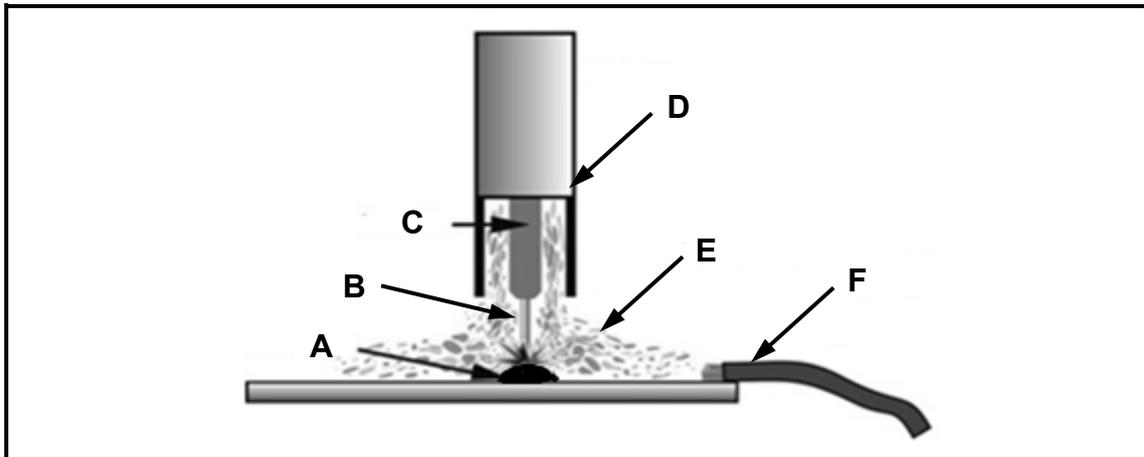

FIGURE 6.1
6.8 FIGURE 6.1 shows the MIG/MAGS welding process. Label A–F.